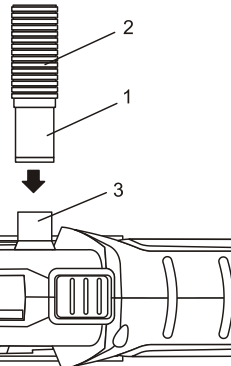

Fig. 5
- Push the small vacuum connector (1) on the end of the vacuum hose (2) over the vacuum port (3) on the right hand side of the tool (Fig. 5).